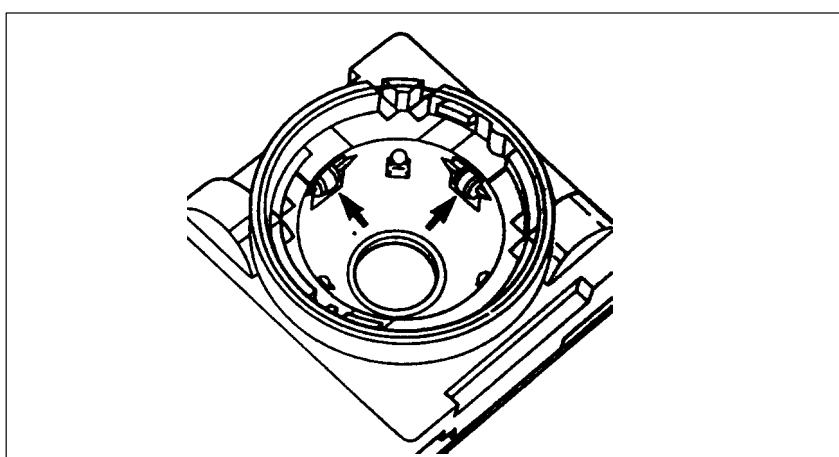

Figure 2-16 Cleaning the Rollers
6. Clean the rollers (Figure 2-16).